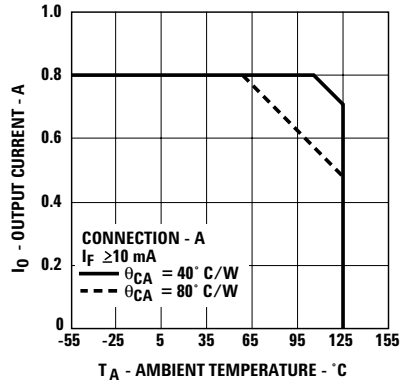
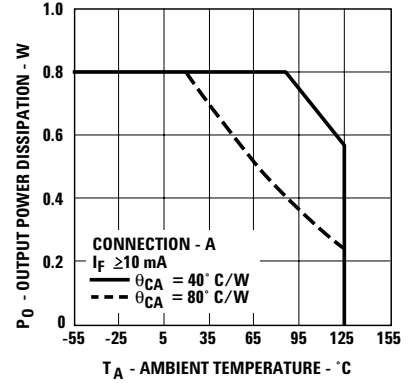

Figure 2. Maximum Average Output Current Rating vs. Ambient Temperature.
Figure 4. Output Power Rating vs. Ambient Temperature.
- For rating, see Figure 4. The output power P_O rating curve is obtained when the part is handling the maximum average output current I_0 as shown in Figure 2.
IN ORDER TO DETERMINE V_{OUT} CORRECTLY, THE CASE TO AMBIENT THERMAL IMPEDANCE MUST BE MEASURED FOR THE BURN-IN BOARDS TO BE USED. THEN, KNOWING θ_{CA} , DETERMINE THE CORRECT OUTPUT CURRENT PER FIGURES 2 AND 4 TO INSURE THAT THE DEVICE MEETS THE DERATING REQUIREMENTS AS SHOWN.
The output on-resistance, R_{ON} , specified in this data sheet, is the resistance measured across the output contact when a pulsed current signal ($I_O = 800 \text{ mA}$) is applied to the output pins. The use of a pulsed signal ($\leq 30 \text{ ms}$) implies that each junction temperature is equal to the ambient and case temperatures. The steady-state resistance, R_{SS} , on the other hand, is the value of the resistance measured across the output contact when a DC current signal is applied to the output pins for a duration sufficient to reach thermal equilibrium. R_{SS} includes the effects of the temperature rise of each element in the thermal model. Rating curves are shown in Figures 2 and 4. Figure 2 specifies the maximum average output current allowable for a given ambient temperature. Figure 4 specifies the output power dissipation allowable for a given ambient temperature. Above 55°C (for $\theta_{CA} = 80^{\circ}\text{C}/\text{W}$) and 107°C (for $\theta_{CA} = 40^{\circ}\text{C}/\text{W}$), the maximum allowable output current and power dissipation are related by the expression $R_{SS} = P_O(\text{max}) / (I_O(\text{max}))^2$ from which R_{SS} can be calculated. Staying within the safe area assures that the steady-state junction temperatures remain less than 150°C . As an example, for $T_A = 95^{\circ}\text{C}$ and $\theta_{CA} = 80^{\circ}\text{C}/\text{W}$, Figure 2 shows that the output current should be limited to less than 610 mA. A check with Figure 4 shows that the output power dissipation at $T_A = 95^{\circ}\text{C}$ and $I_O = 610 \text{ mA}$, will be limited to less than 0.35 W. This yields an R_{SS} of 0.94Ω .